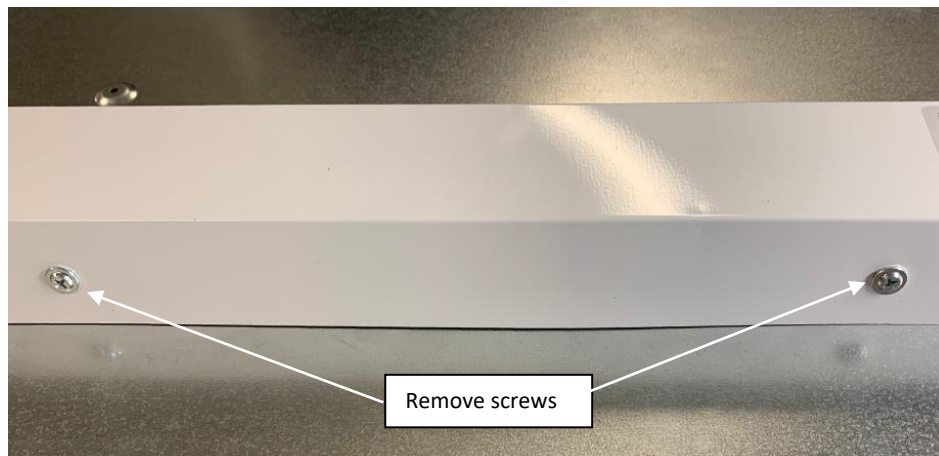

Figure 7: Remove Driver cover screws
1. Remove the two screws holding the driver cover onto the power plate and slide the driver cover off away from the lance features on the opposite side shown in Figure 7 and 8.